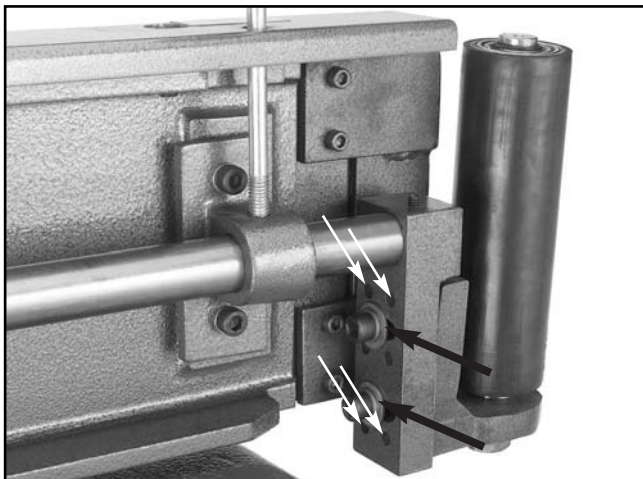

Figure 40. Idler roller adjustment screws.
5. Loosen the two cap screws (shown with black arrows in **Figure 40**) approximately half a turn, and notice the four setscrews nearby (shown with white arrows in **Figure 40**)—these control the parallel tracking of the sanding belt.
7. Tighten the two cap screws shown in **Figure 40**.